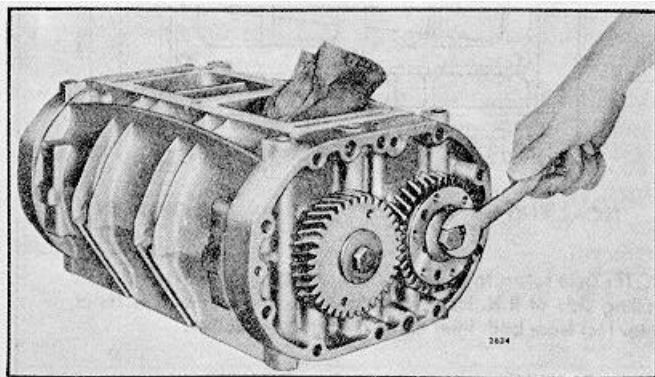

FIG. 17 - Installing Blower Rotor Timing Gears
- g. Thread a 1/2"-20 x 1-1/4" bolt with a thick washer into the end of each rotor shaft. Place a clean folded cloth between the lobes of the rotors to prevent the gears from turning. Draw the gears into position tight against the spacers and shims and the bearing inner races as shown in Fig. 17.